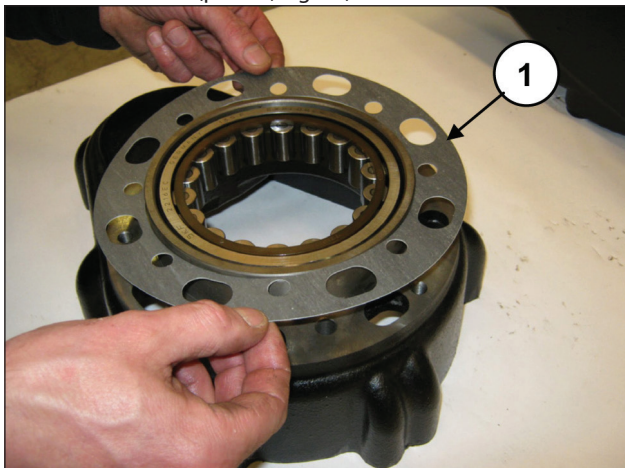
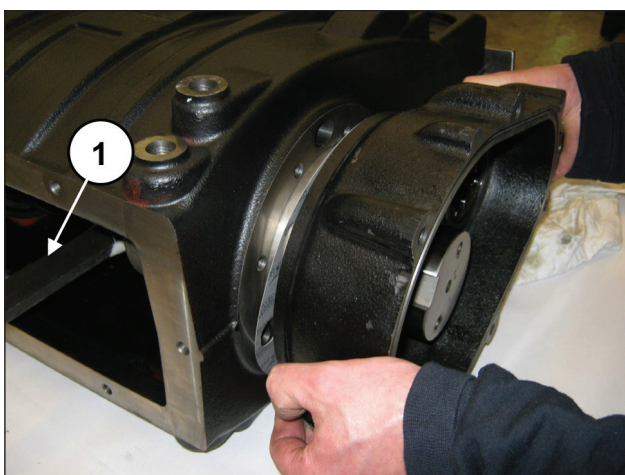

Fig. 63
Fig. 64
From the opposite side, insert the side seal on the reduction gear box (pos. ①, Fig. 63) and lift the crankshaft to facilitate the cover insertion (pos. ①, Fig. 64).